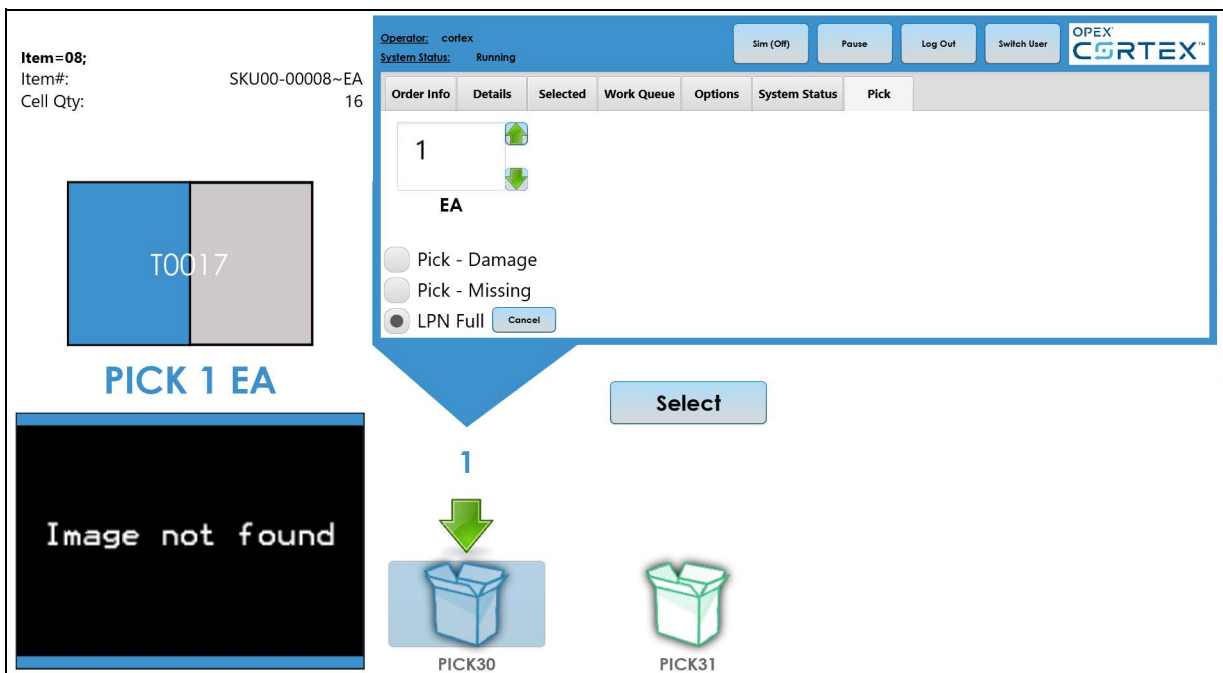

Figure 3-4: LPN Full example
**Note:** When only one more item can fit in the container, the operator selects LPN Full and changes the EA quantity to 1 (Figure 3-4).